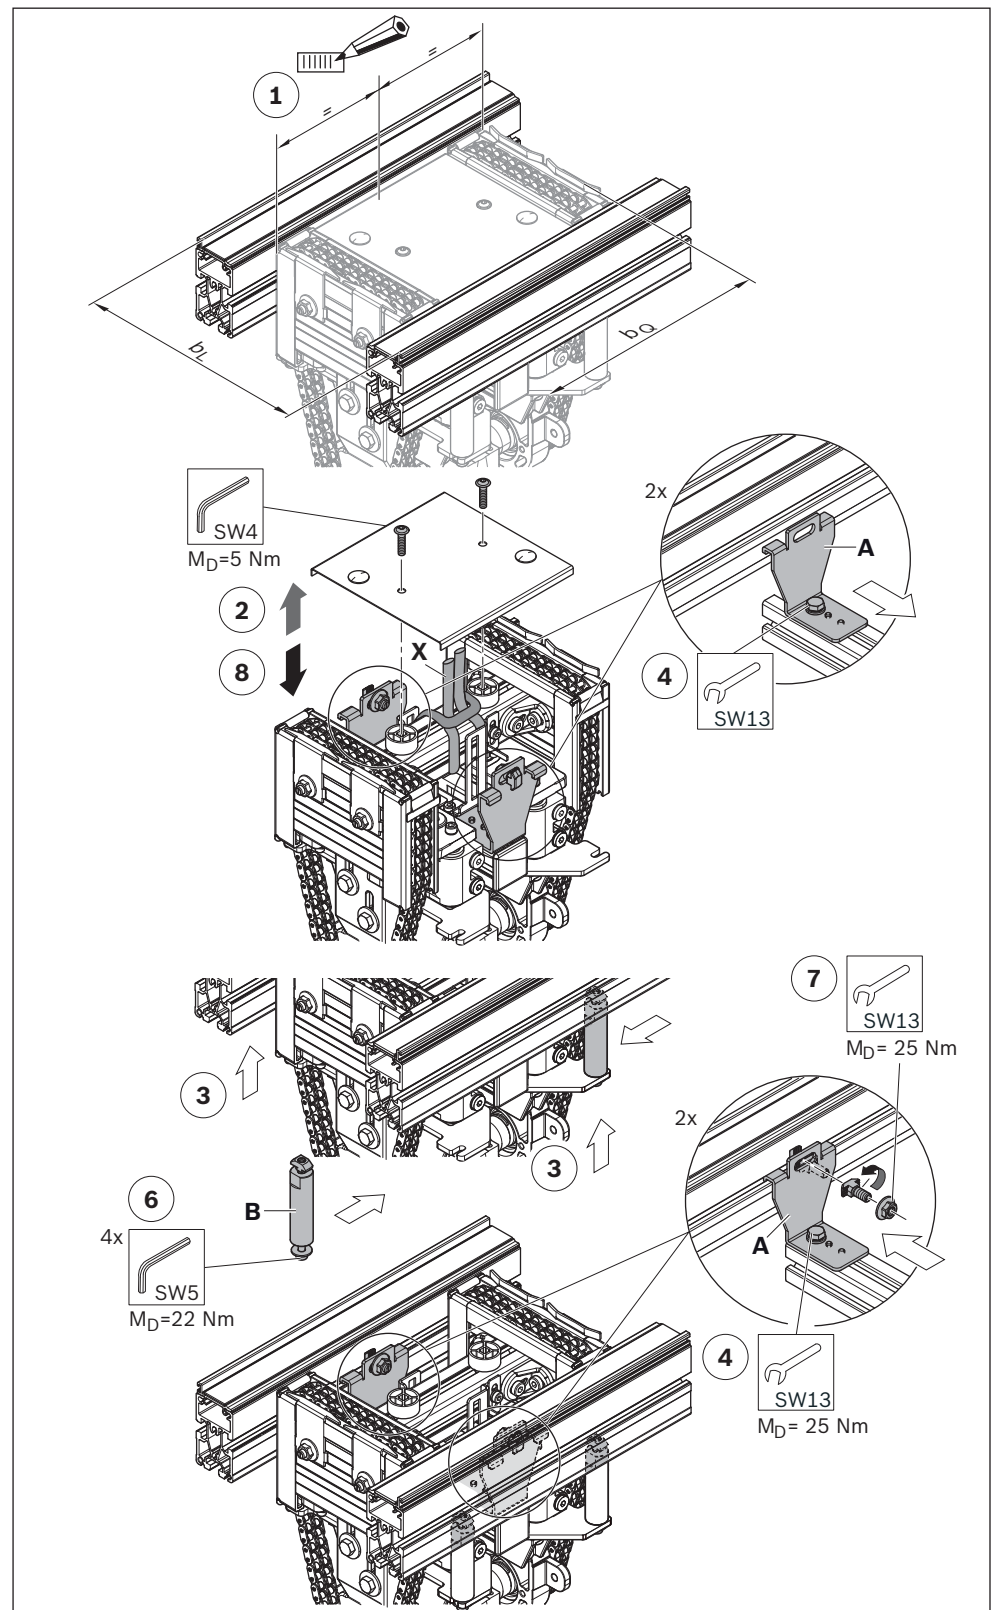

Fig. 5: Installing the HQ 2/U-H lift transverse unit, $b_0 = 240$ mm
Use a lift aid to lift the product. For the lifting points for a round sling (X), for example, see Fig. 5.
4. Insert the hooks (A) in the inner profile slot of the section.
6. Only for $b_0 = 240$ mm: install the distance bolts (B).
1. Mark the installation position of the HQ 2/U-H (see Fig. 5 on page 18).